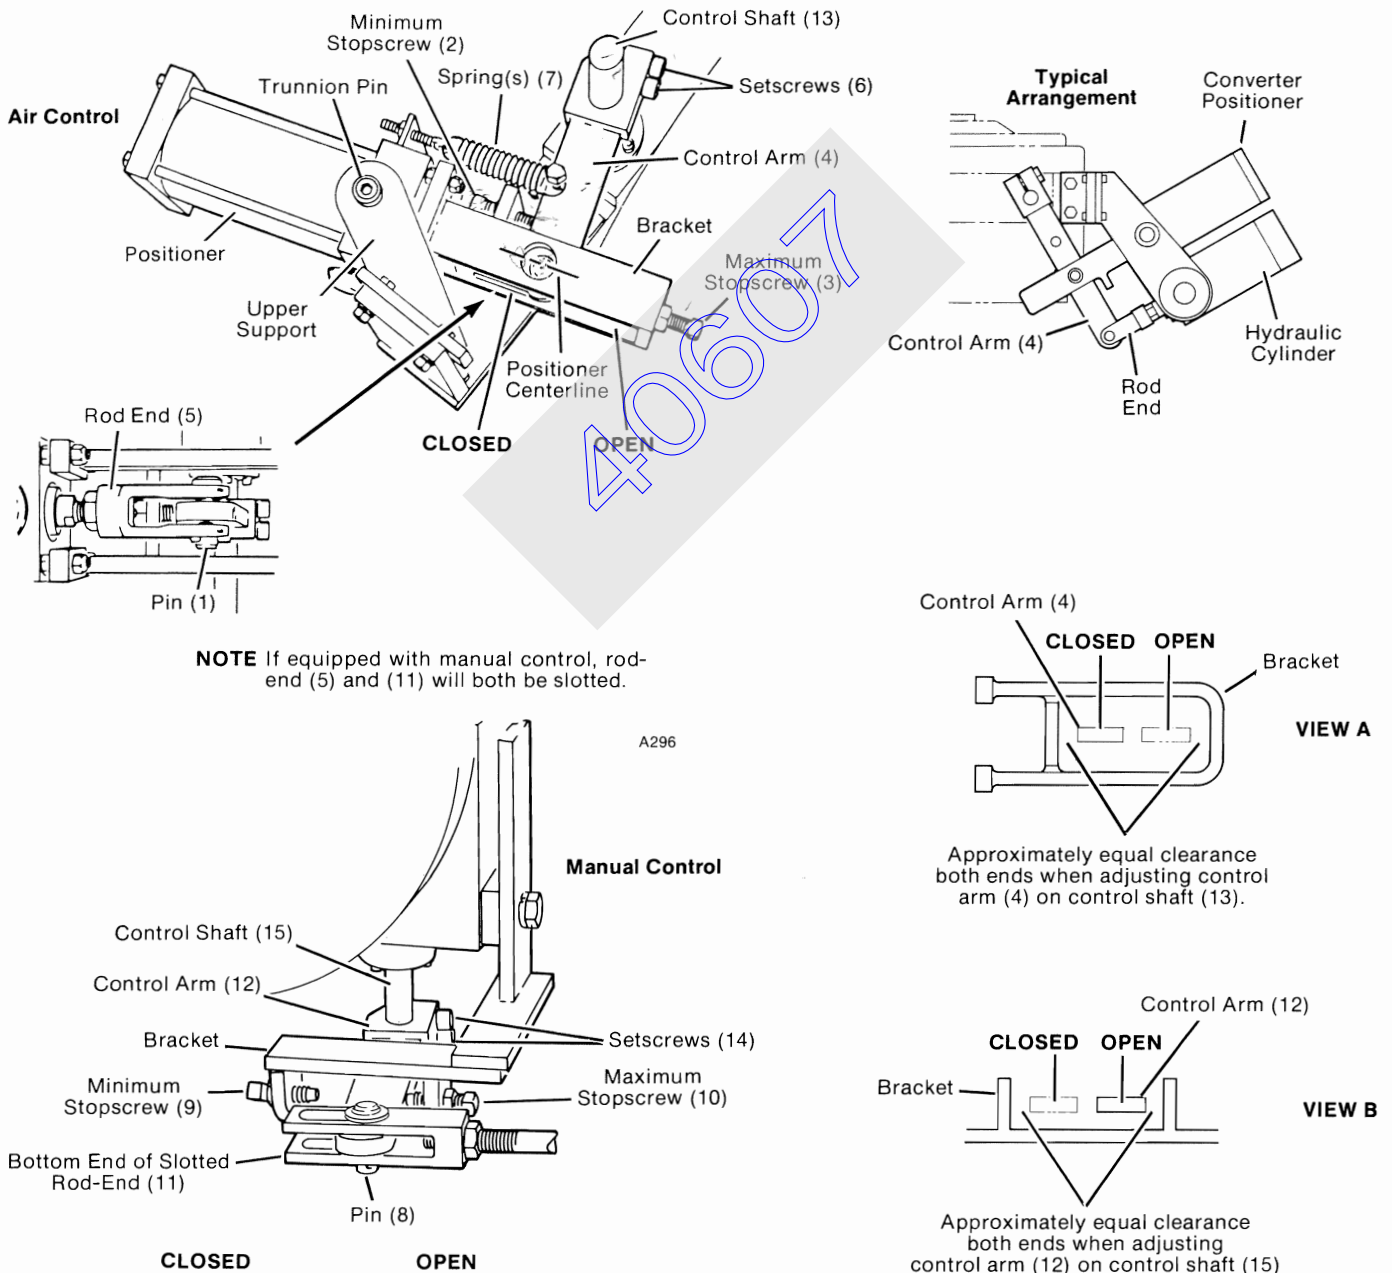

Figure 17 Converter Controls
AIR CONTROL ADJUSTMENT (see Figure 17)
1. Remove Pin (1), pin (8, if equipped) and springs (7).
4. Check the position of control arm (4) on control shaft (13) as follows:
- a) Turn control shaft (13) to the fully CLOSED internal limit and then to fully OPEN internal limit.
- b) Observe the movement of control arm (4) during step 4a; control arm (4) must not hit either end of the bracket as shown in View A, Figure 17. Clearance between the edge of the bracket and control
MANUAL CONTROL ADJUSTMENT (see Figure 17)
1. Remove pin (1), springs (7), and pin (8).
3. Slide slotted rod end (11) off control arm (12).
4. Check the position of control arm (12) on control shaft (15) as follows:
- a) Turn control shaft (15) to the fully CLOSED internal limit and then to fully OPEN internal limit.
- b) Observe the movement of control arm (12) during step 4a; control arm (12) must not hit either end of the bracket as shown in View B, Figure 17. Clearance between the edge of the bracket and control arm (12) should be approximately equal at the fully opened and closed limits.
- c) If the proper movement of control arm (12) is not obtained, loosen setscrews (14) and adjust control arm (12) for the prescribed movement. Then securely tighten setscrews (14).
REMOVAL (see Figure 17)